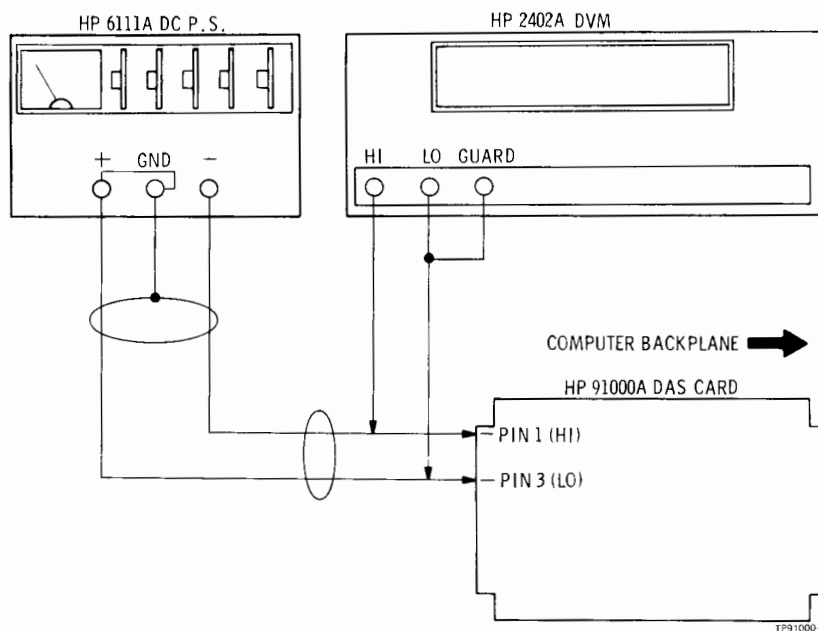

Figure 4-4. Calibration Test Setup
- a. Connect test equipment to DAS card as shown in Figure 4-4.